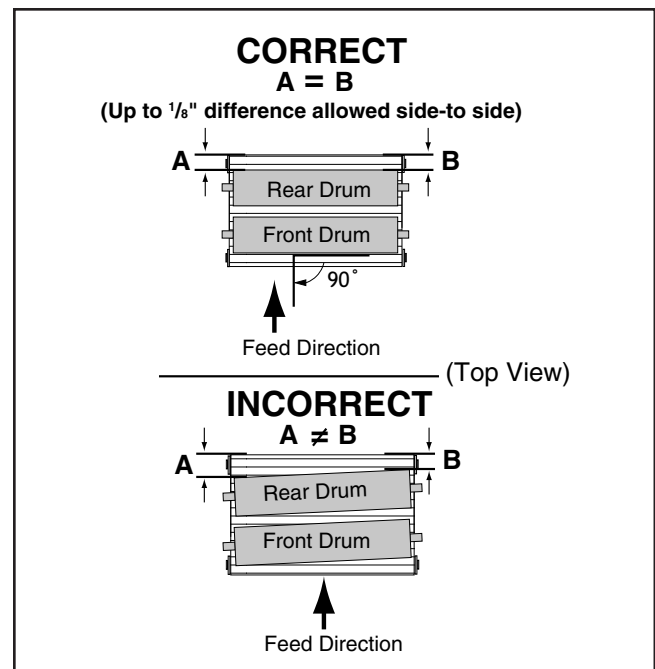
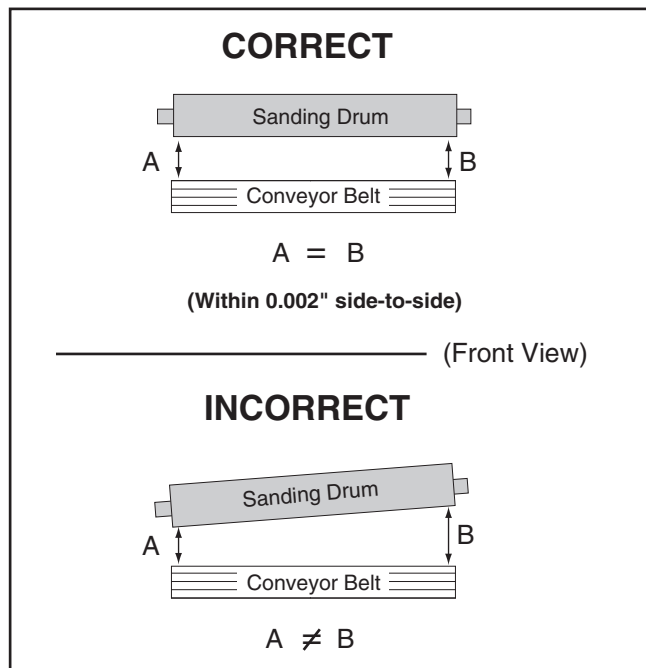
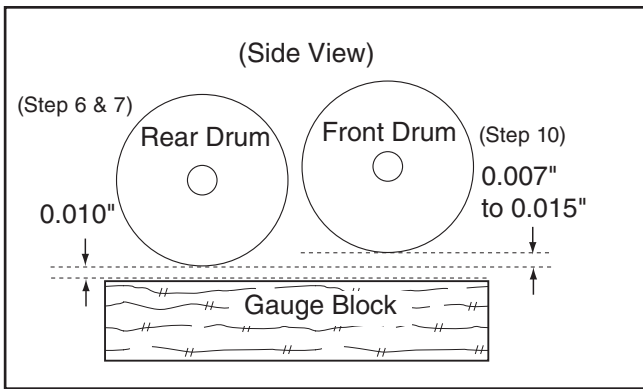

Figure 53. Drum perpendicular to feed direction.
Figure 58. Drum parallel to conveyor belt.
Figure 62. Rear drum set below front drum.
There are three adjustments for the sanding drums: 1) the drums must be perpendicular to the feed direction (parallel with the conveyor roller, **Figure 53**); 2) the drums must be parallel to the top of the conveyor belt (**Figure 58, Page 44**); 3) the rear drum must be set approximately 0.007" to 0.015" below the front drum (**Figure 62, Page 45**).
The tolerances for having the drum perpendicular to the feed direction allow up to $\frac{1}{8}$ " difference from one side to the other (see **Figure 53**). If the drums are not perpendicular to the feed direction (in other words, parallel to the conveyor rollers), they may put a side load on the conveyor belt during operation, forcing the conveyor to track off to the side and possibly causing damage.
Keep in mind that having the drums parallel to the top of the conveyor belt (see **Figure 58**) is critical to the sanding operation. Take care to adjust the drums parallel to the conveyor surface within 0.002" from one side to the other.
6. Turn the micro-adjustment knob until a 0.010" feeler gauge fits between the drum and gauge board (**Figure 62**).
Note: The 0.017"–0.025" setting is a recommended range and includes the 0.010" setting on the rear drum and the additional 0.007" to 0.015" height from **Step 12** (See **Figure 62**). Some trial-and-error may be needed to find the optimal setting based upon the sandpaper grit size you use (ie, coarse grit = smaller number; fine grit = larger number).